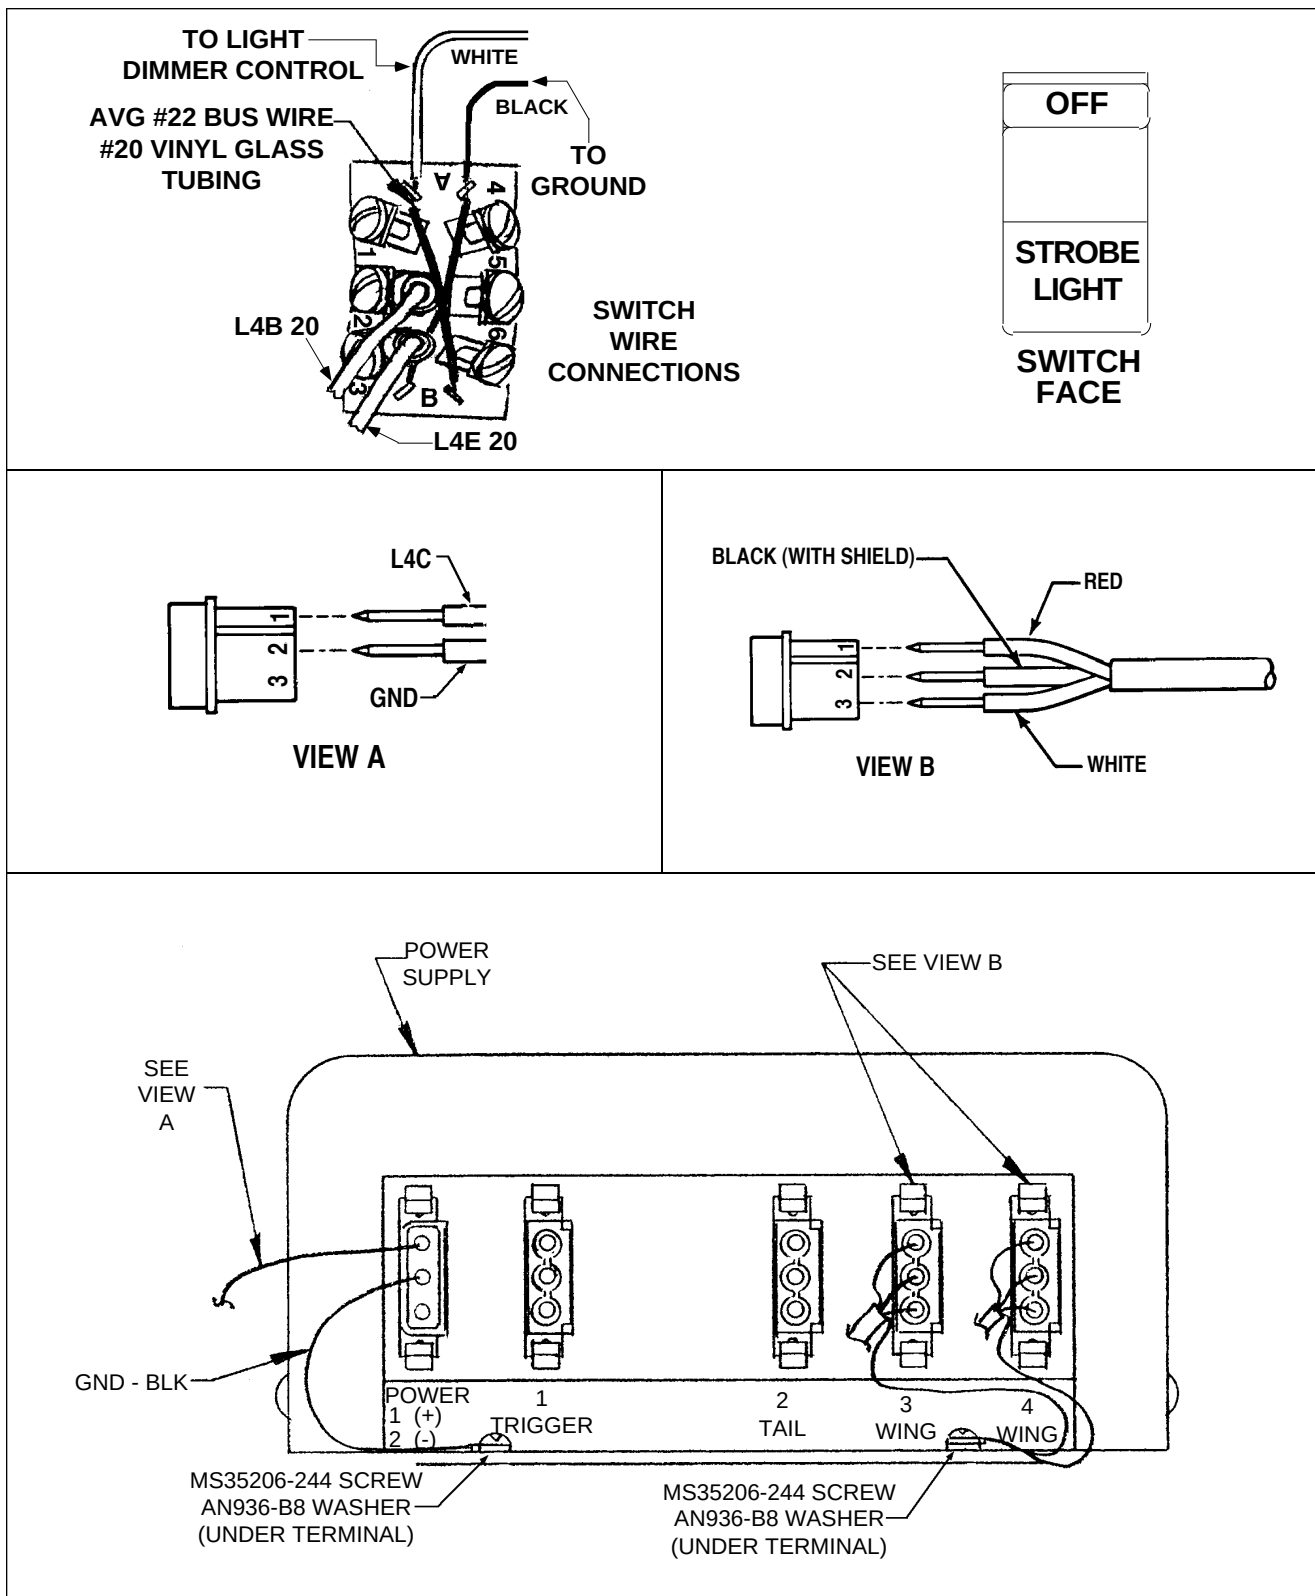

Figure 33-6. Archer III Strobe Light Connections
5. Strobe Power Supply (Refer to Figure 33-6)
- (1) Ensure that the BATT MAST and STROBE LIGHT switches are in OFF position.
- (2) Disengage (pull out) ANTI-COLL LIGHTS circuit breaker.
- (3) Remove access panel to aft section of fuselage in the rear baggage compartment to gain access to the power supply.
- (4) Disconnect electrical plugs (three each). Note the placement of plugs to aid installation.
- (5) Note and mark location; then disconnect the other electrical leads.
- (6) Remove four screws holding power supply to fuselage. Remove power supply.
b. Installation Of Strobe Power Supply (Refer to Figure 33-6)
- (1) Position power supply in place and secure with the four screws previously removed.
- (2) Connect electrical leads in proper place.
- (3) Connect electrical plugs in proper place.
- (4) Set (push in) ANTI-COLL LIGHTS circuit breaker.
- (5) Verify lights are working by selecting BATT MAST and STROB LIGHT switches ON and checking that both **strobe** lights flash. Select BATT MAST and STROB LIGHT switches OFF.
- (6) Replace access panel in rear baggage compartment.